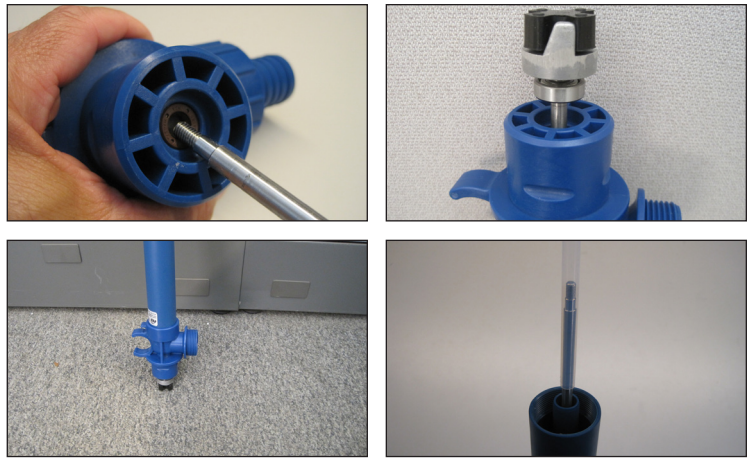

Figure 14 A, B, C, D
5. **Shaft Installation** - Slide the shaft down through the seal until the bearing engages the bearing bore in the head. Set the half coupling on the floor and push the pump down using the intake tube (item 15) for leverage. Make sure the bearing (item 4) is flush with the top of the head (item 7). While the pump is in this upright position slide the shaft sleeve (item 14) between the shaft (item 5) and inner tube (item 12). The shaft sleeve is self positioning so just push it in all the way until it drops down in completely into the inner tube. See figures 14 A, B, C, D.